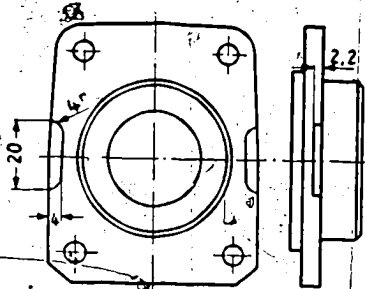

Fig. 15 Grey cast iron endplate
c) New injection pumps are delivered with pressed-in endplates of grey cast iron. These endplates can be identified by the 20 mm wide and 2.2 mm high lifting recesses (Fig. 15) and